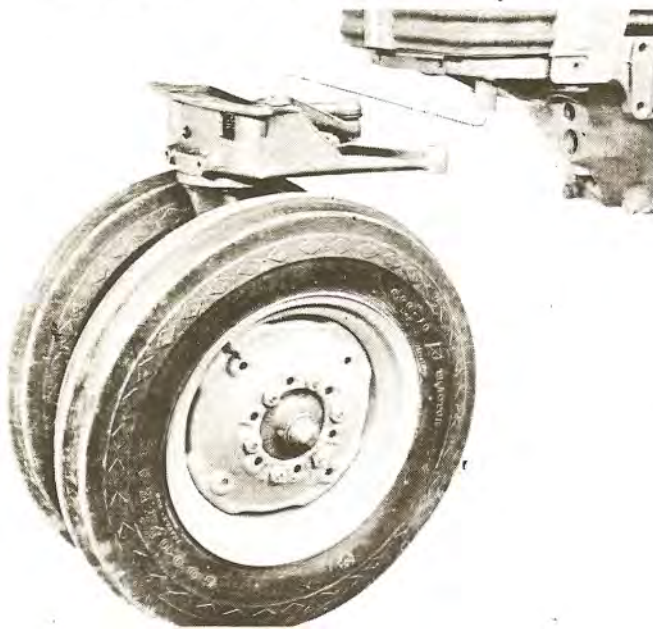

Fig. 11 — Removing Twin Front Wheel Axle Assembly
3. Carefully raise tractor, and at the same time, withdraw from below, the spindle shaft, No. 17, axle, No. 19, and wheels as an assembly. (See Fig. 11).